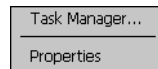

Figure 2-9. Task Manager, Properties Selection Menu
1. Select **FUNC - CTRL**, (to activate the **ALT** state) and tap on the taskbar to display the *Task Manager, Properties* window, see Figure 2-9 on page 2-16.